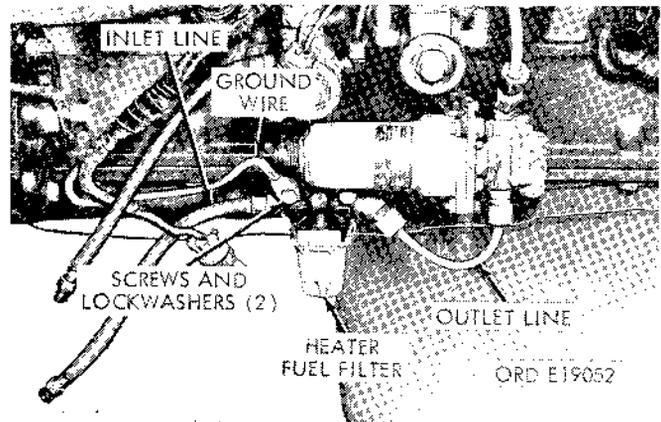

Figure 2-110. Disconnecting manifold heater fuel filter lines.
(1) Disconnect the heater fuel filter inlet and outlet lines (fig. 2-110).
- (2) Connect the filter inlet and outlet lines to the filter (fig. 2-110).